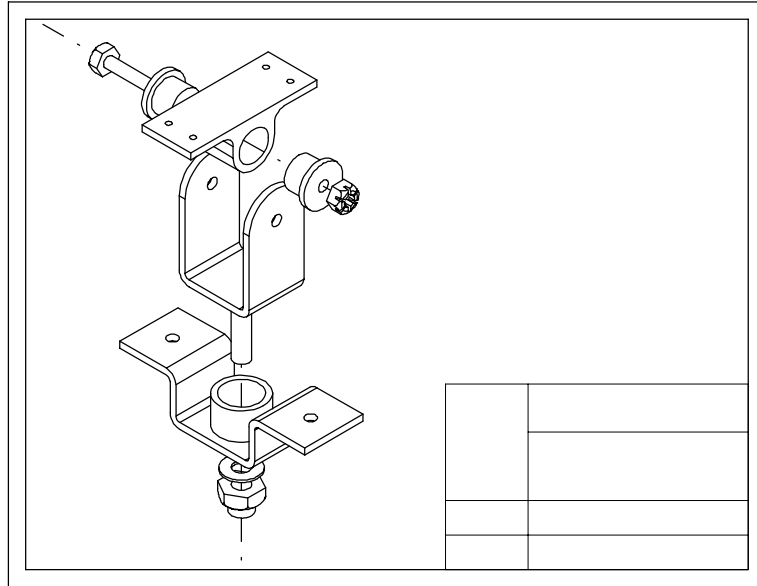

Figure 12-17 Exploded isometric view of the assembly
7. Turn off the display of the datums from the **Datum Display** toolbar. If the model is not placed properly inside the boundaries of the drawing sheet, double-click on the drawing view and place it as shown in Figure 12-17.